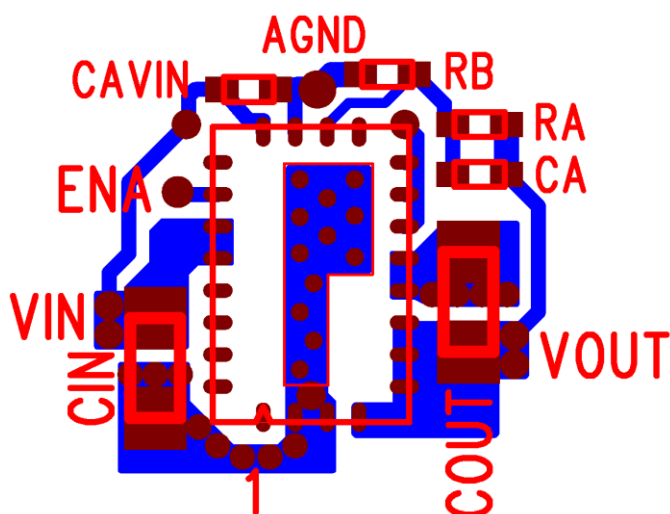

Figure 9. Optimized Layout Recommendations
**Recommendation 5:** AVIN is the power supply for the small-signal control circuits. It should be connected to the input voltage at a quiet point. In Figure 9 this connection is made at the input capacitor. Place a 1 $\mu$ F capacitor from the AVIN pin to AGND right next to device pins.
Only the two large thermal pads and the perimeter leads are to be mechanically/electrically connected to the PCB through a SMT soldering process. All other exposed metal is to remain free of any interconnection to the PCB. Figure 9 shows the recommended PCB metal layout for the EN5329 package. A GND pad with a solder mask "bridge" to separate into two pads and 24 signal pads are to be used to match the metal on the package. The PCB should be clear of any other metal, including traces, vias, etc., under the package to avoid electrical shorting.